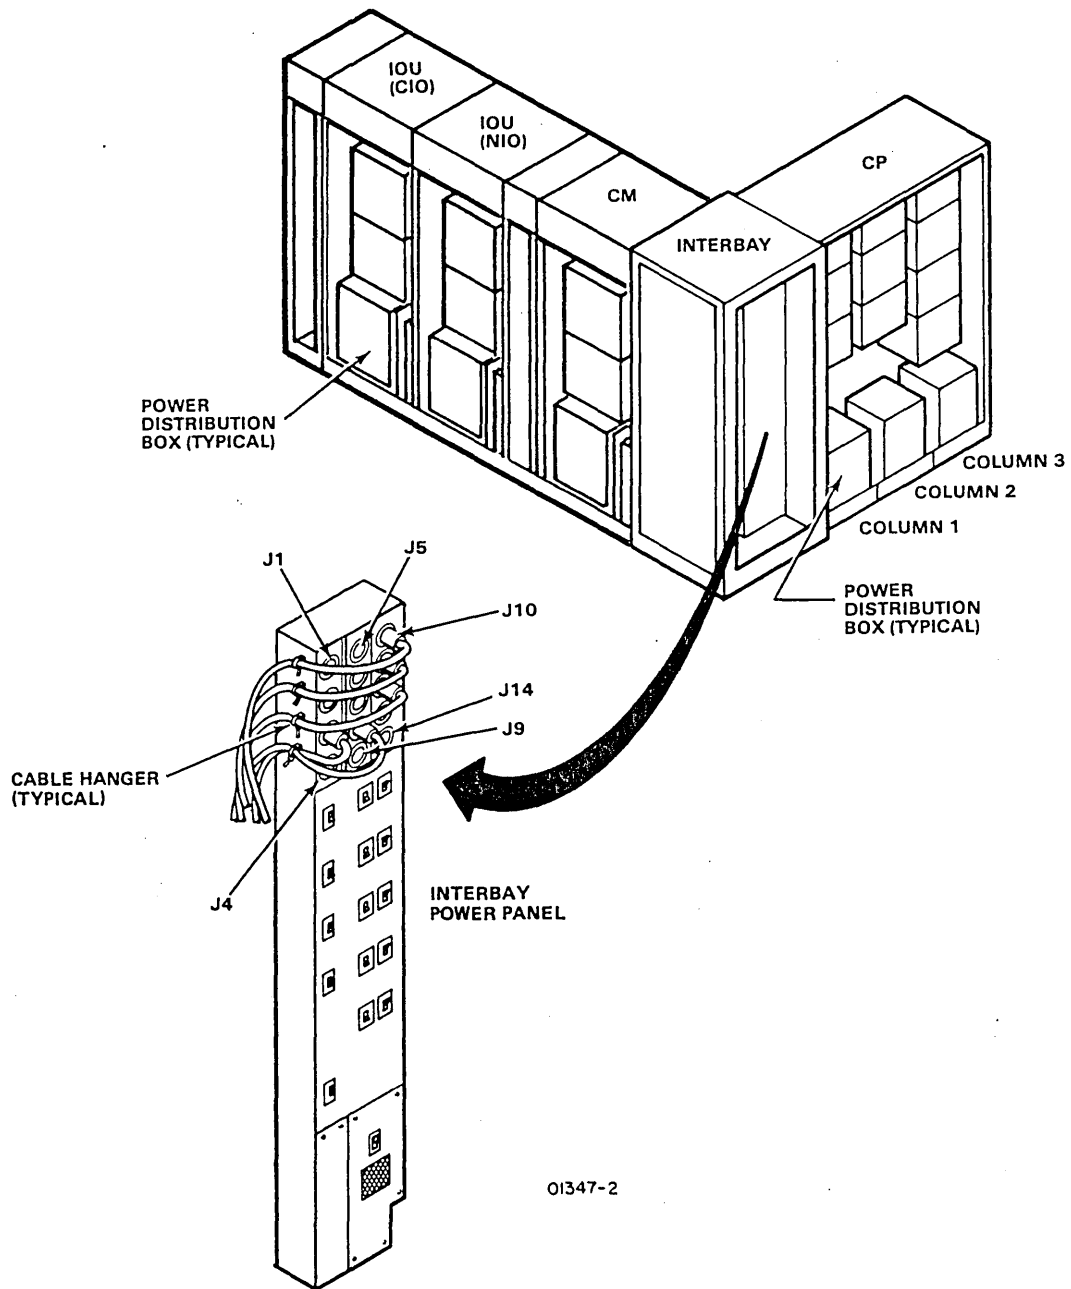

Figure 3-12. 50/60-Hz and 400-Hz Power Cord Connections to Interbay Power Panel
- ___ a. Route 50/60-Hz and 400-Hz power cords from CM cabinet, through CM and interbay cabinet cutouts, and around left side to front of interbay power panel (figure 3-12).